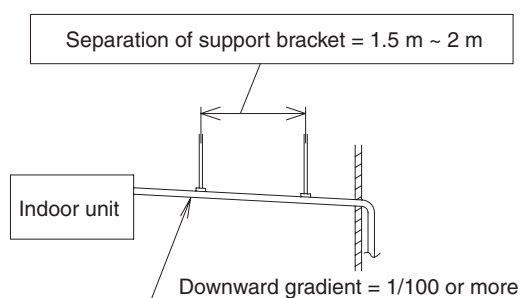

Fig. 2-36
- Make sure the drain pipe has a downward gradient (1/100 or more; downward from drain port connection). (Fig. 2-36)